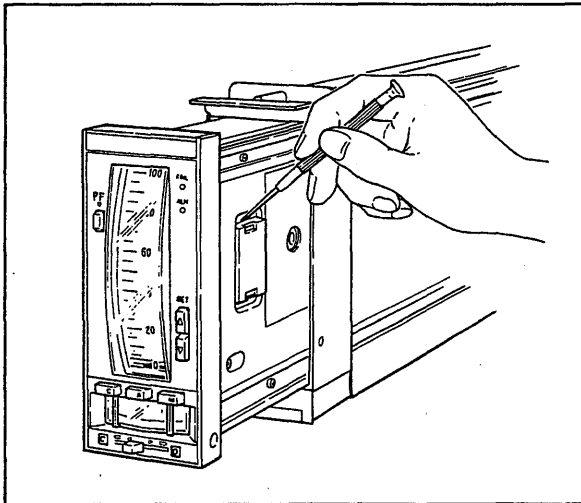

Figure 6-3-4. Removing Battery Cover.
- (1) Draw out the controller module a little from the housing, and remove the battery cover and the battery. (Figure 6-3-4 and 6-3-5.)
- (2) Install a new battery, and fit the battery cover securely.
- (3) Make sure that the ALM lamp has stopped flashing.